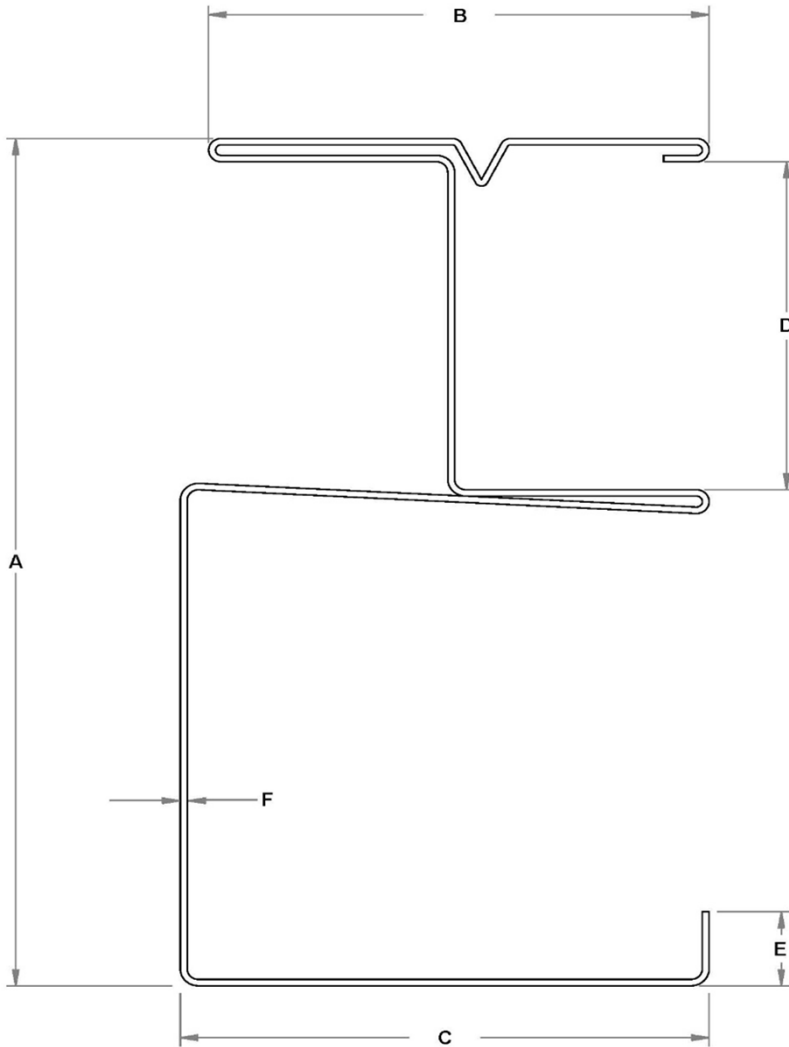

Figure 7 - Nominal C-H Stud Dimension Locations
1. Refer to Figure 7 for location of tabulated dimensions.